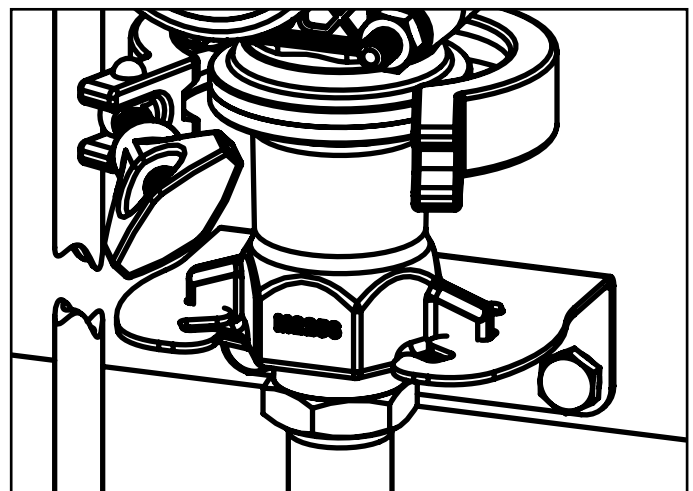

Fig. 9.2: Polypropylene lower support bracket
- **For Polypropylene Models:** Twist the lower body and align the winglets to release it from the support bracket. [Fig 9.2]